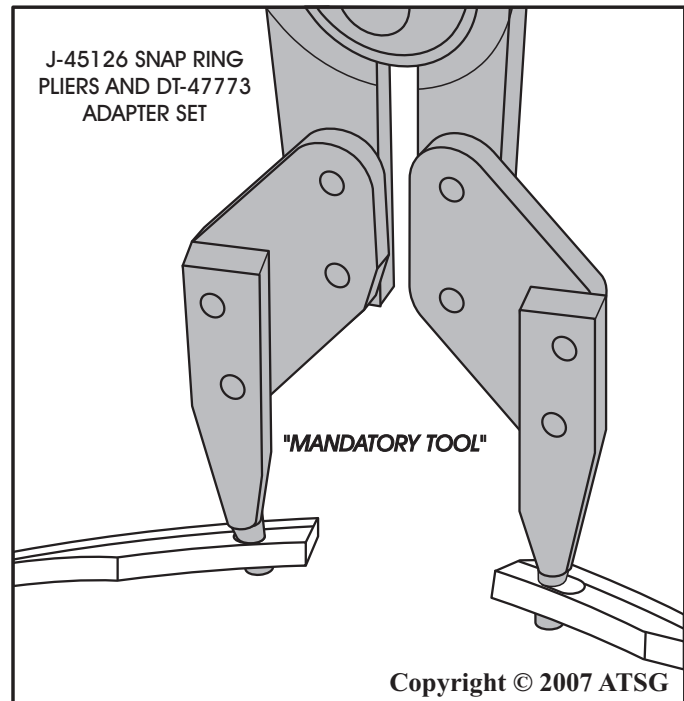
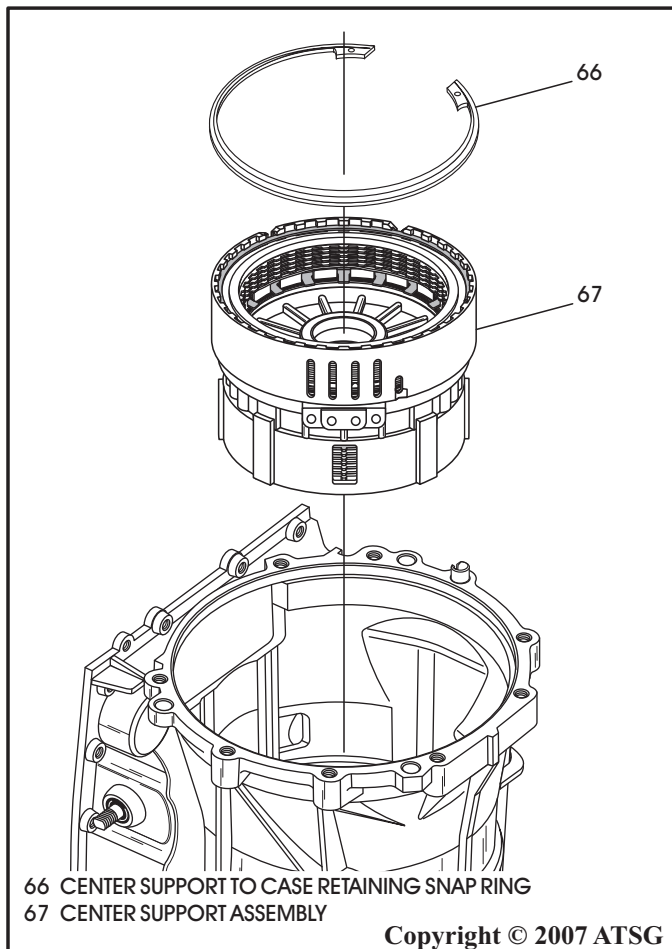

Figure 156
Figure 155
6. Install the pre-assembled center support assembly, as shown in Figure 155.
8. Install center support retaining ring with the tapered side facing up, as shown in Figure 155, using the J-45126 snap ring pliers along with DT-47773 adapter set, shown in Figure 156.